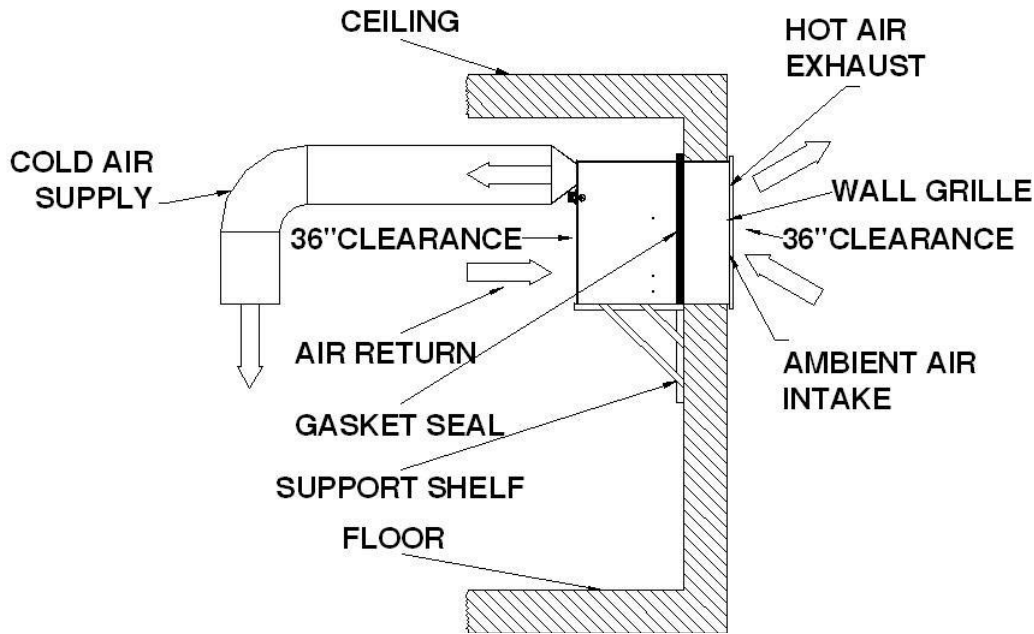

Fig. 4.12 Flush to the outside of wall with cold-air supply duct & wall grille
5. Through-wall installation with cold-air supply ducts (Fig 4.12)